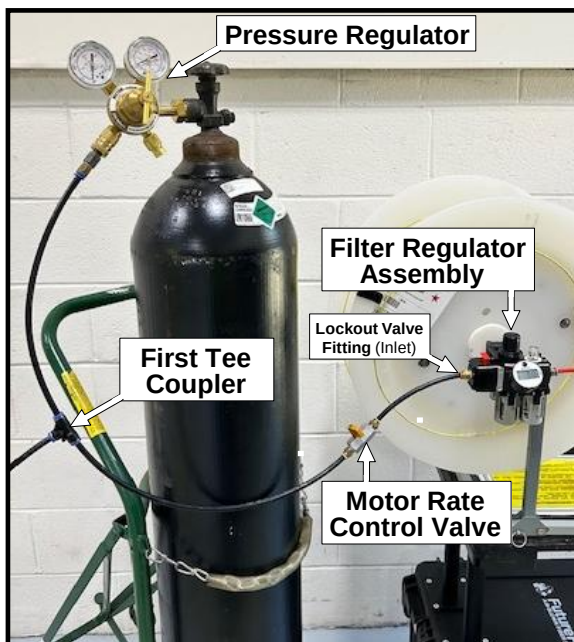

Figure 13
See Fig. 13
8.5 Push-fit length of 8mm Black tubing from the First Tee Coupler to the Motor Rate Control Valve (2' length recommended.) See Fig. 13